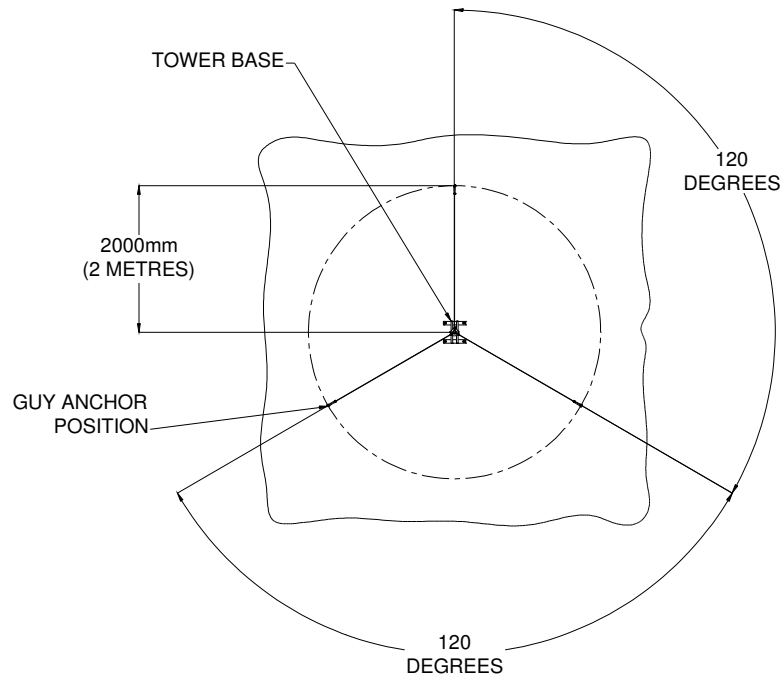

Fig 2: Anchor positions
4. **Mark out the tower anchor positions** - Begin by selecting an appropriate position for the tower base. Remember that the guy wires will radiate out from the centre of the tower, so you will need to ensure that enough room is available. A footprint of 4 meters diameter is required for the tower guy wires. See fig 2 for the positions of the anchors. Measure and mark these positions starting from the position of the tower base. One of the guy anchors must be in-line with the tilting action of the tower to allow easy final erection.